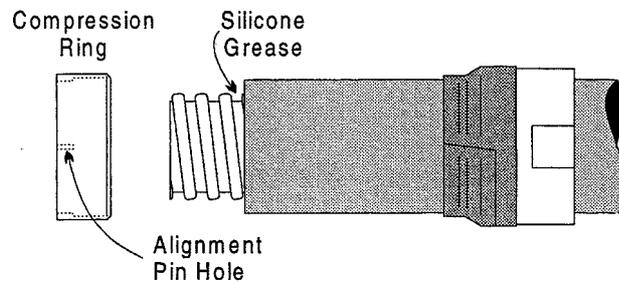
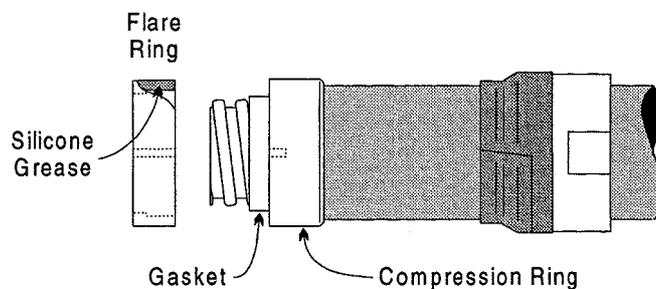

Figure 3.28. Fit Compression Ring
Figure 3.29. Fit Flare Ring
- c. Grease the cut edge of the jacket, slip the chamfered end of the compression ring over until the recessed edge bottoms against the jacket (align pin in holes facing away from the jacket) as shown in Figure 3.28 and Figure 3.29.
- d. Turn the gasket inside out and fit on the end of the waveguide, apply a thin film of silicone grease to the gasket threads, roll the gasket over to the correct position and against the compression ring. See Figure 3.29 and apply a thin film of grease to the outside surface of the gasket. Clean any grease from the exposed copper with solvent.